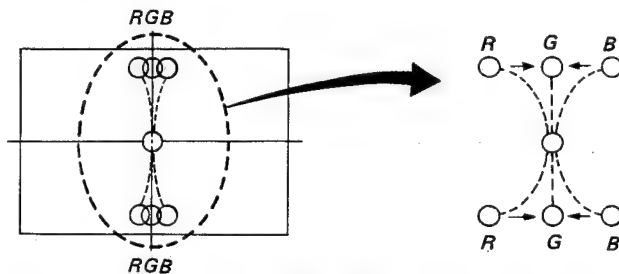

Fig. 1-19.
11. Adjust RV31 (UNDER SCAN Y. BOW) on the DB board to coincide with the R, G and B dots as shown in Fig. 1-19.